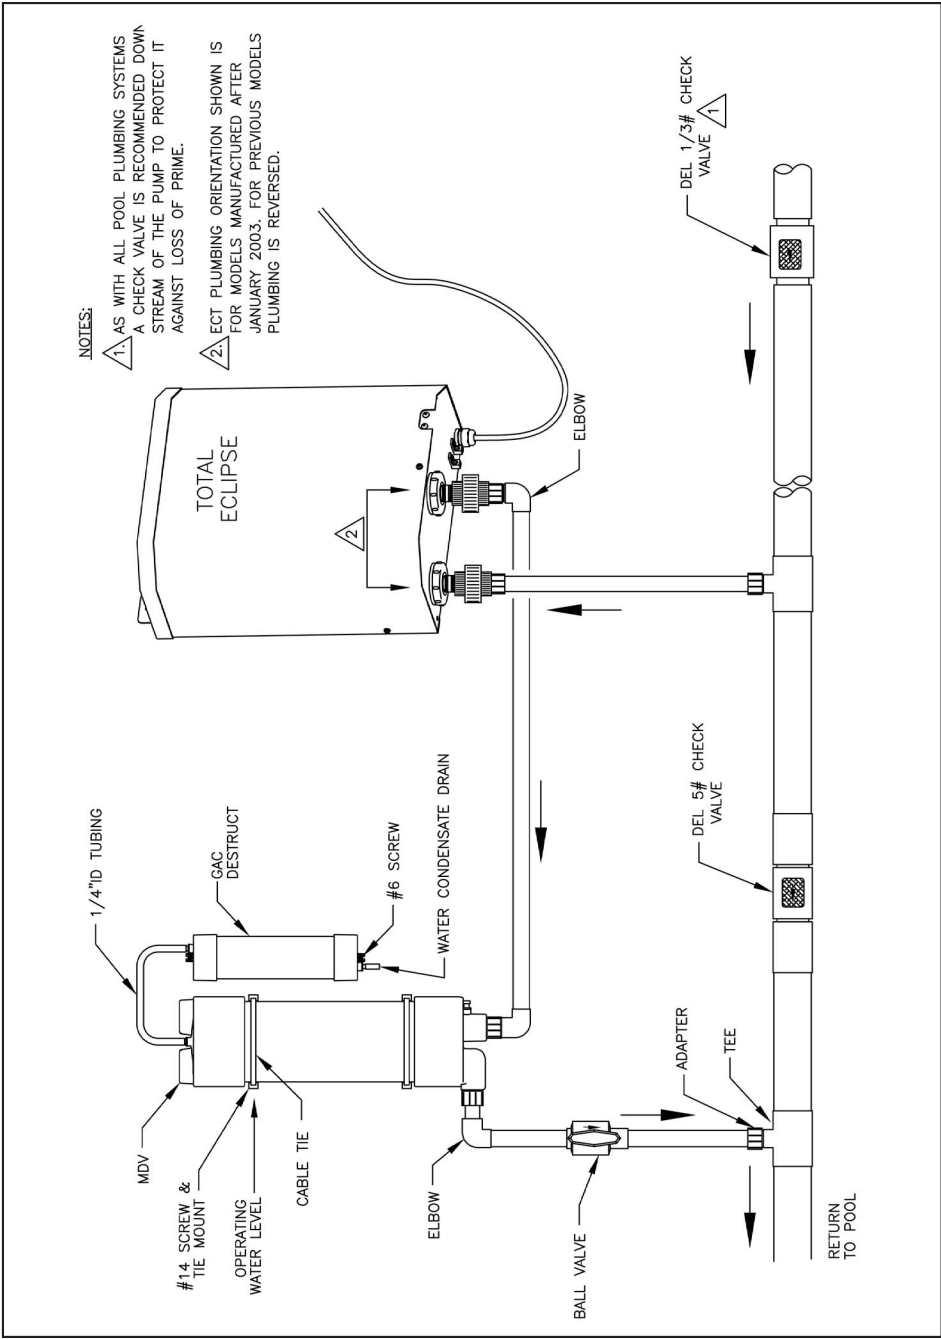

Figure 2
Installation (refer to Figure 2):
2. Mount the MDV vertically as shown in **Figure 2** to a solid surface (i.e. fence, wall, post) using the (2) cable ties, (4) cable tie mounts, and (4) screws included. Use a pair of pliers to tighten and secure the cable tie. If trimming away excess, fold tab over to avoid the sharp edge. To avoid discoloration, mount in an area out of direct sunlight.
4. Plumb the Total Eclipse and MDV to the pool return line as indicated in Figure 2. Wrap all threaded fittings with 2 layers of Teflon tape.
1. Begin with the ball valve in the wide open position (as shown in figure 2.) Follow system start-up instructions in Total Eclipse manual. Turn off the pool's main circulation pump, and allow the Total Eclipse to run on its own. At this point water will be flowing through the MDV, but not filling up the tower.